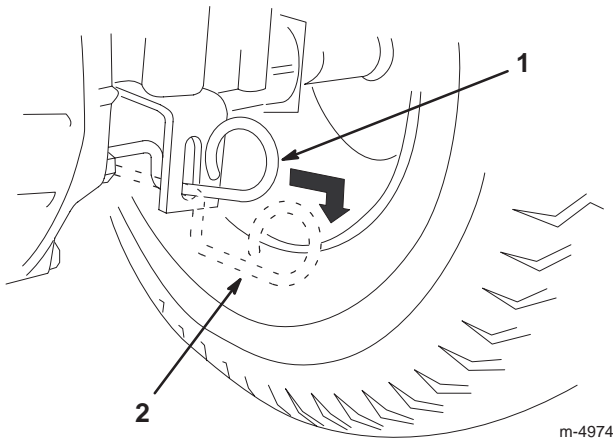

Figure 13
4. Pull the drive control out to the Push position (Fig. 13).
Note: This disengages the drive system and allows the wheels to turn freely (Fig. 13).
Push the drive control in to the Operate position (Fig. 13).